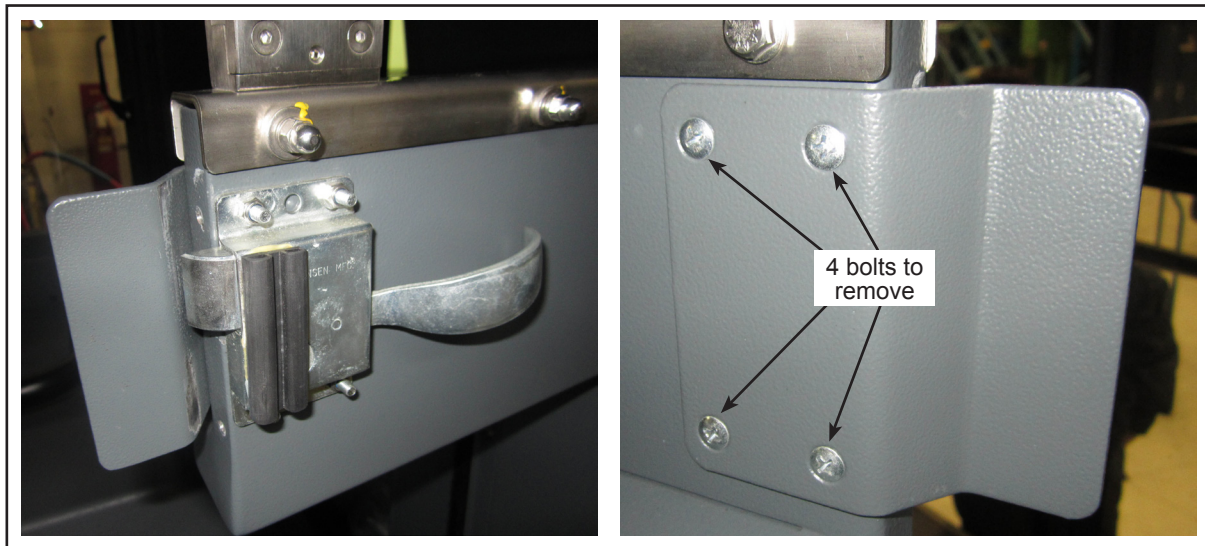

Figure 1 - Remove the Door Latch
- 1.1. Remove the latch from the driver's door compartment. Keep the hardware. See Figure 1.